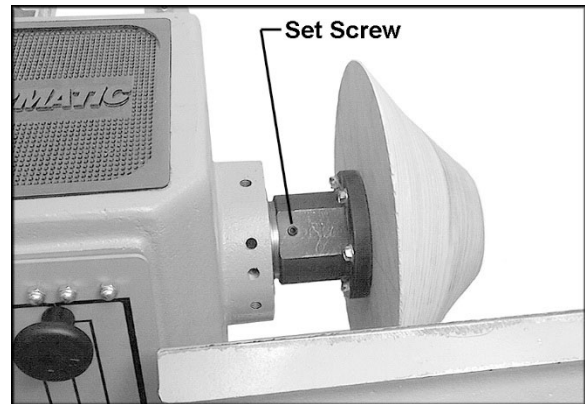

Figure 21
WARNING If at any time you will be *reversing* spindle rotation, make sure the two set screws in the face plate are tight! One of these is shown in Figure 21. Failure to do this may cause the face plate to loosen from the headstock spindle.
5. To *remove* the face plate, loosen the two socket set screws (Figure 21). Engage the spindle lock button and turn the face plate counterclockwise with the face plate wrench, as shown in Figure 21.
⚠WARNING When turning with a face plate, make sure both set screws on the face plate are tight (see Figure 21) before reversing the spindle. Failure to comply may cause the face plate to spin loose from the spindle.